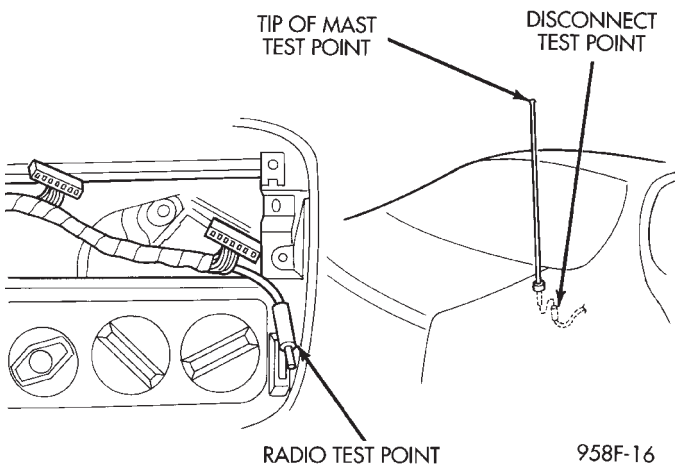

Fig. 1 Antenna Test Points
- (1) Continuity should be present between the antenna mast and radio end pin of antenna cable plug (Fig. 1).
- (2) No continuity should be observed or a very high resistance of several megohms between the ground shell of the connector and radio end pin.
- (3) Continuity should be observed between the ground shell of the connector and the mounting hardware in the trunk right rear quarter panel